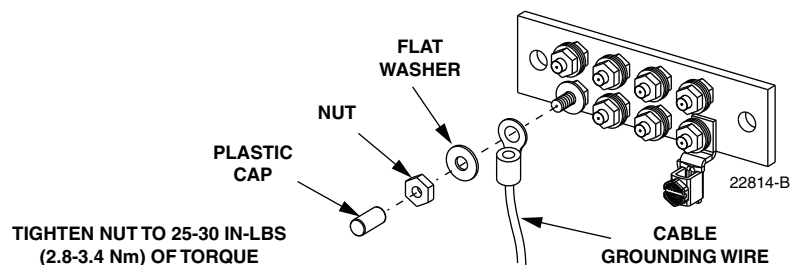

Figure 20. Connecting Grounding Cable to Grounding Block
6. Remove the protective plastic cap, nut, and flat washer from one of the grounding studs on the grounding block as shown in Figure 20.